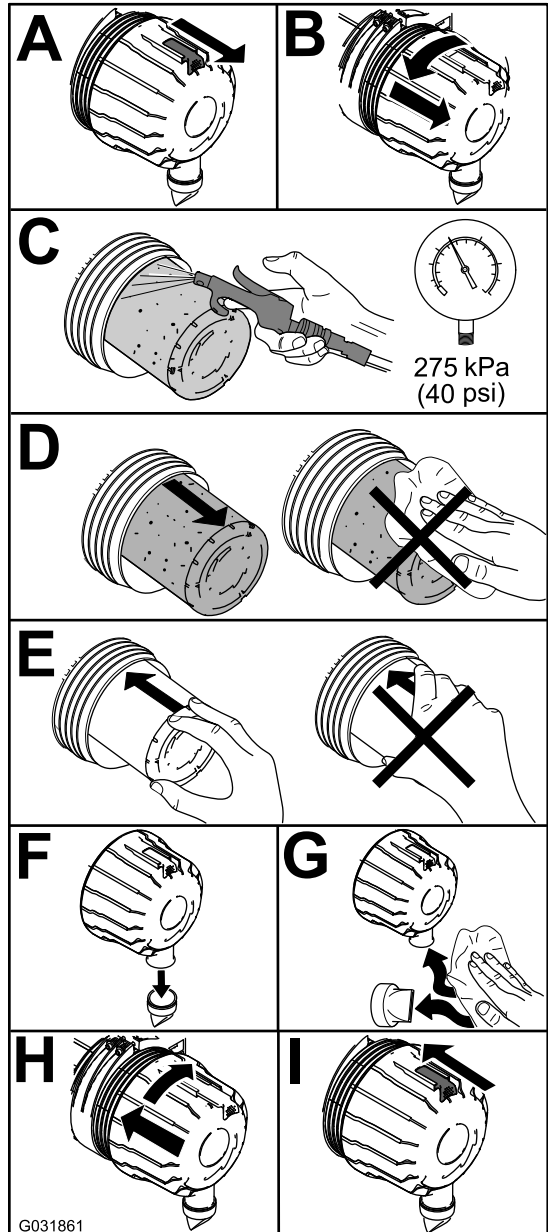

Figure 82
1. Replace the air cleaner (Figure 82).